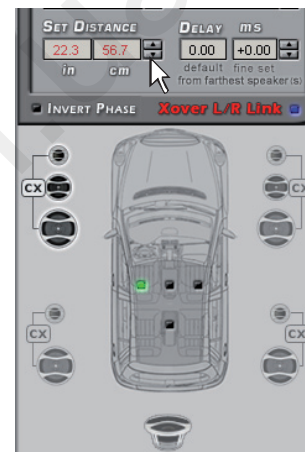

Fig. 5
3. Select the channel related to the speaker under examination on the Channel Map and enter the respective distance value in the Set Distance box of the Filter Settings menu. (fig.5)